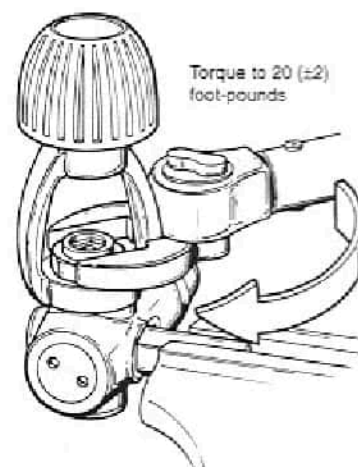

Fig. 15 - Torquing Inlet Fitting
21. Install the O-ring(9) into the recessed groove inside the inlet fitting(10).
22. Install a new filter(8) into the yoke retainer with the conical portion facing downward, and press it firmly into place to ensure that it seats inside the recessed O-ring. Install a new filter retainer(7) to secure the filter.
23. Install the O-ring(11) over the stem of the inlet fitting and into the groove at the base of the threads, and set the inlet fitting aside.
25. Lay the yoke washer(4) down over the inlet opening of the main body. Insert the threaded stem of the inlet fitting through the yoke(3). While holding the inlet fitting and yoke together, mate the inlet fitting into the body and turn it clockwise to engage the threads.
26. Tighten the inlet fitting further clockwise by hand until snug, and apply a torque wrench with 26mm crow-foot to tighten to a pre-set measurement of 20 (± 2) foot-lbs (see Fig. 15).